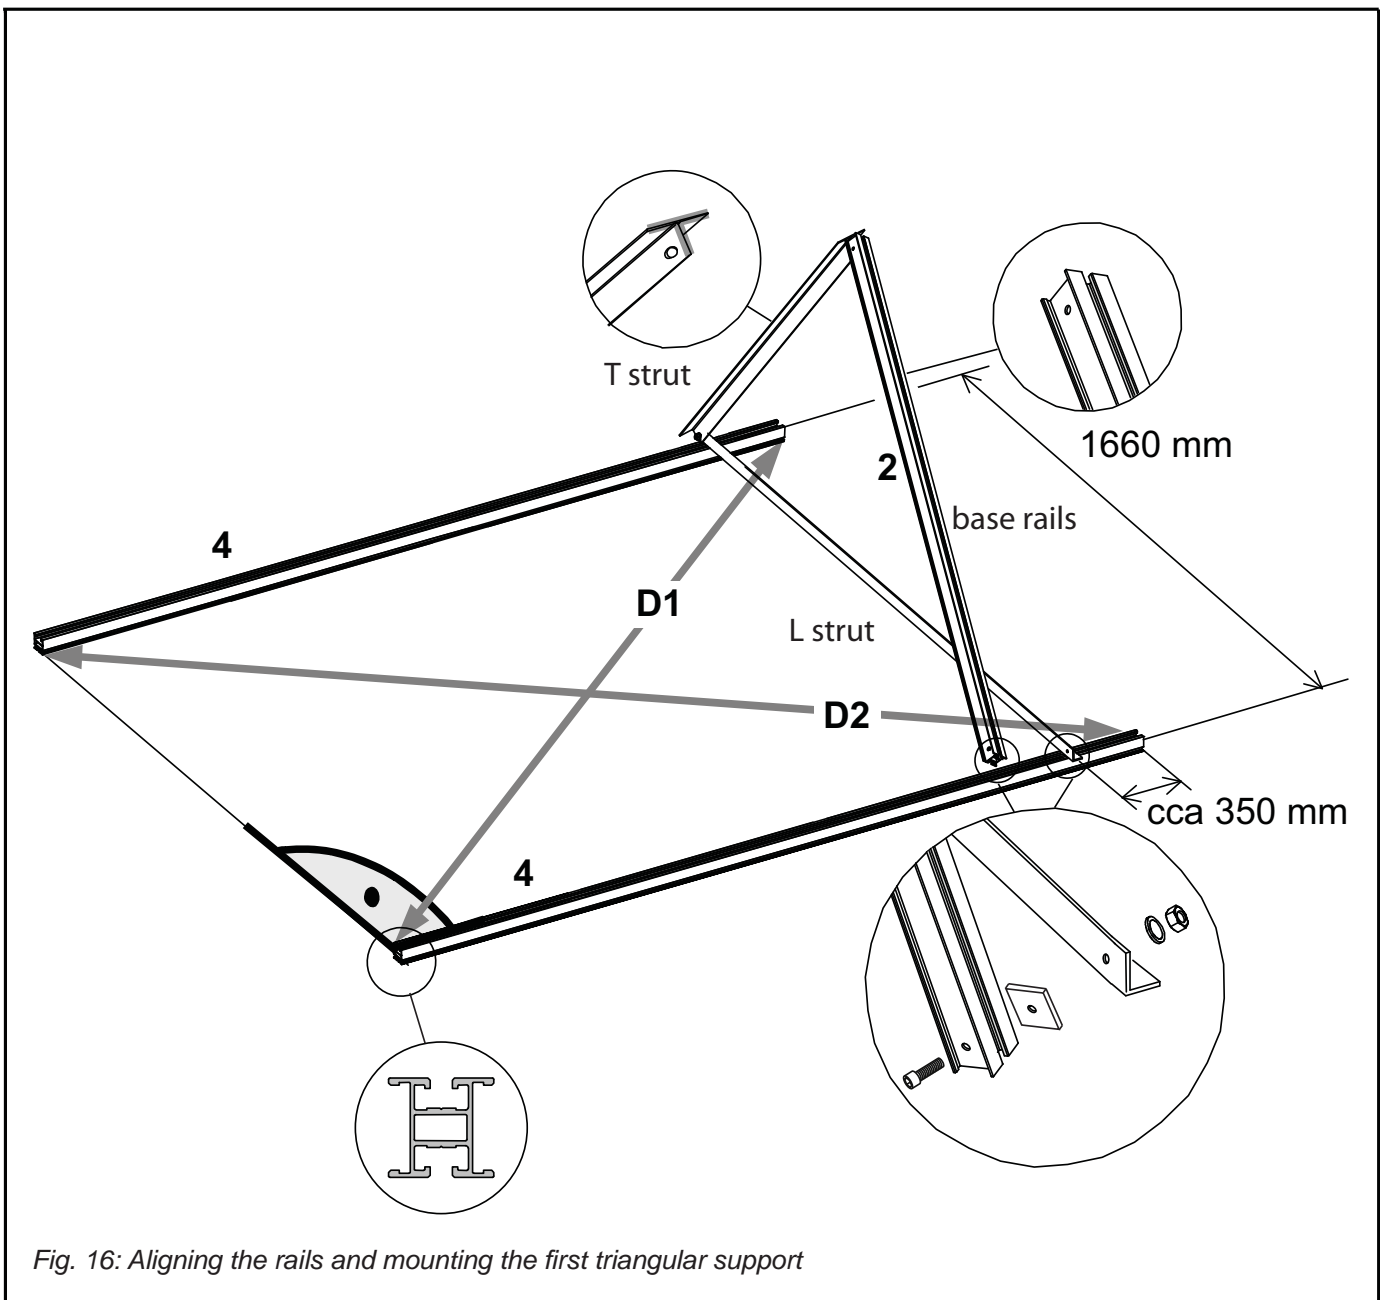

Fig. 16: Aligning the rails and mounting the first triangular support
- The diagonals between the rails shall be of the same length:  $D1 = D2$  (Fig. 16)